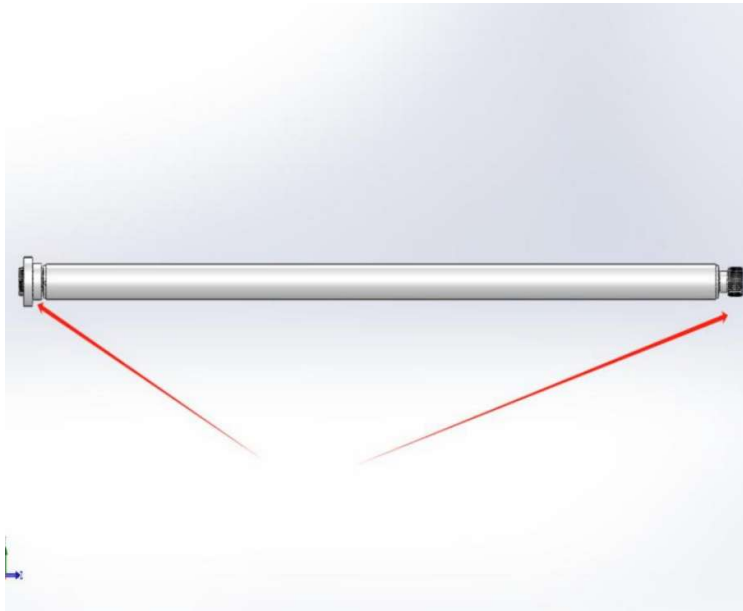

Figure 16
③ Install the cross beam. Since the door legs on both sides have been firmly fixed, they cannot move left or right. Therefore, the coupling on the left door leg has been removed in advance, so the coupling needs to be inserted into the left side of the roller before installing the roller, as shown in Figure 16. Then insert the right side of the roller into the right door leg coupling. Finally, find the correct position and lock the left coupling to the large shaft, as shown in Figure 17;